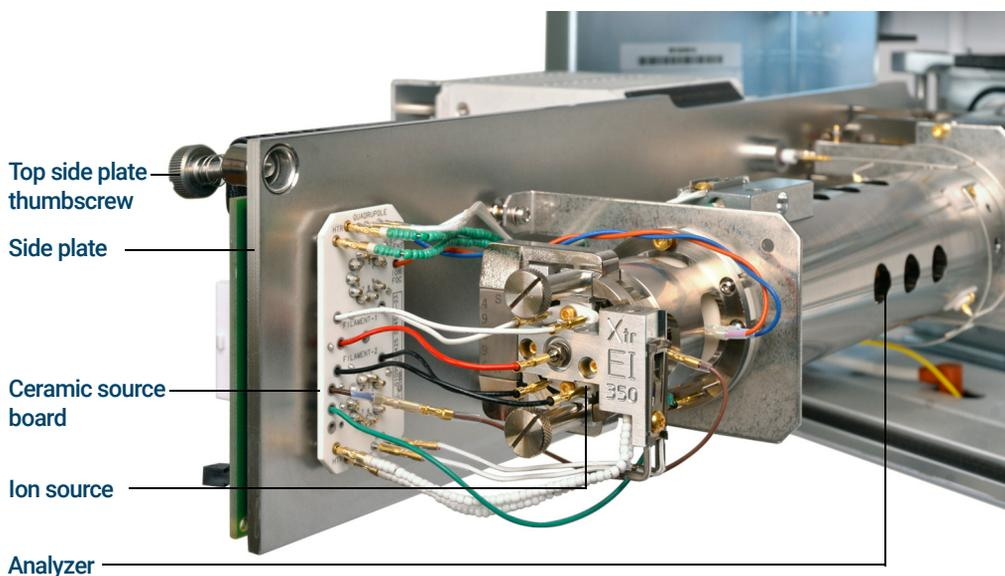

Figure 48. The analyzer chamber for an Inert+ model MSD
- 3 Loosen the analyzer side plate thumbscrews if they are fastened. (See Figure 48 on page 147.)